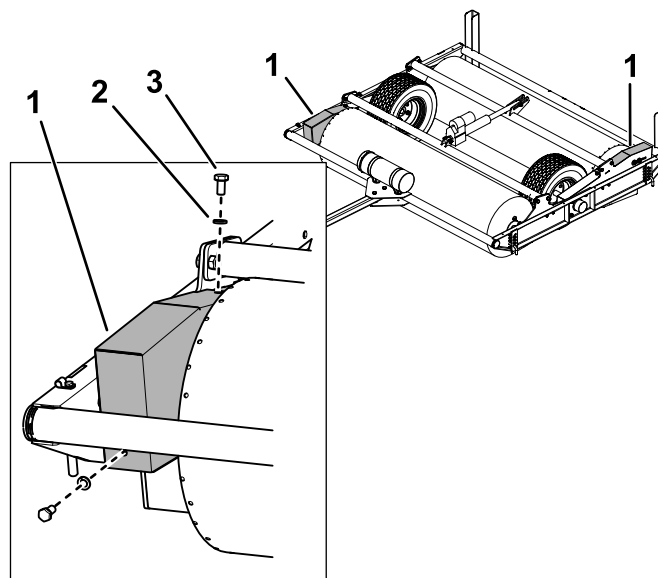

Figure 13
- Install the chain guards as shown in Figure 13.